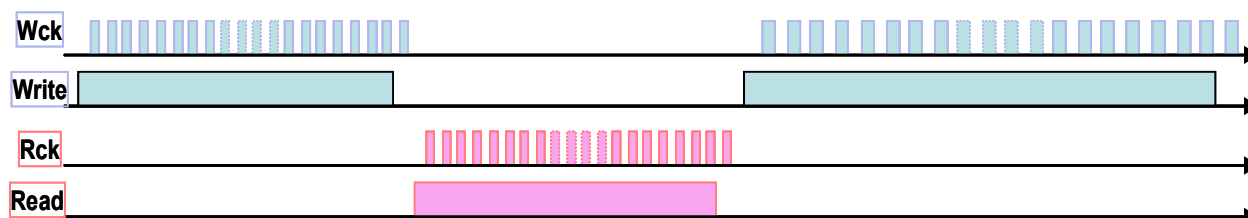

Fig 4: Definition of the SCA write and read phases.
- Two frame signals defining the write and read operations (Fig 4):